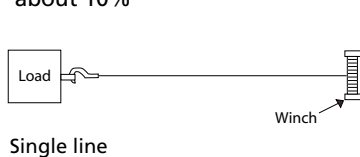

Figure 3
1. Winch is rated at 1,500 lbs., single line capacity (See Figure 3). Maximum load is rated with wire rope being wound around bare winch drum. Each succeeding layer of rope added will reduce the maximum capacity by about 10%.